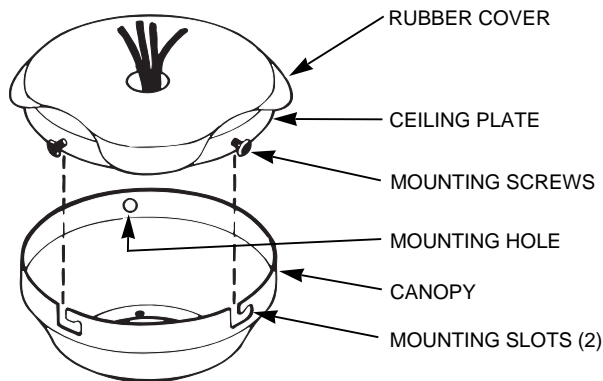

FIGURE 6
**A.** The ceiling plate has (3) mounting screw holes located on the side. Lift up the rubber cover and install (2) #10-32 X 1/2" Phillips round head screws halfway into two of these holes. See Figure 6.
Remove the fan from the ceiling plate hook. Make sure not to break any wire connections. The canopy has (2) mating slots and (1) mating hole. See Figure 6.